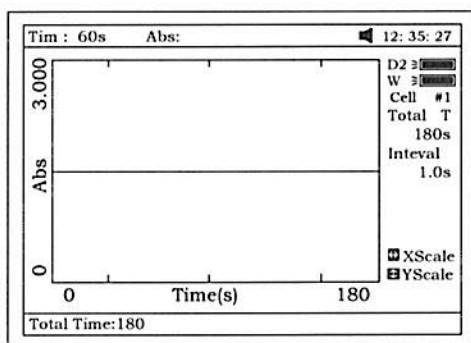

Fig 54
1. Press **【F1】** to set “Total Time”, “Delay Time”, “Time interval”, and input the value by pressing the numeric keypad (Fig 54).